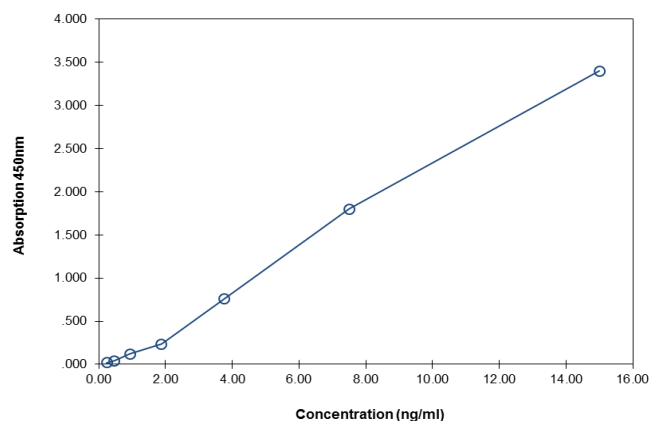

Fig. 8 Representative standard curve for human ZAG ELISA. Human ZAG was diluted in serial 2-fold steps in Sample Diluent.
- A representative standard curve is shown in Figure 8.